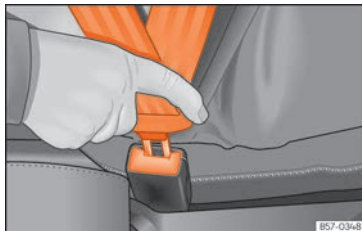

Fig. 14 Insert the latch plate of the seat belt into the buckle.
- Engage the latch plate in the buckle of the corresponding seat »» Fig. 14.